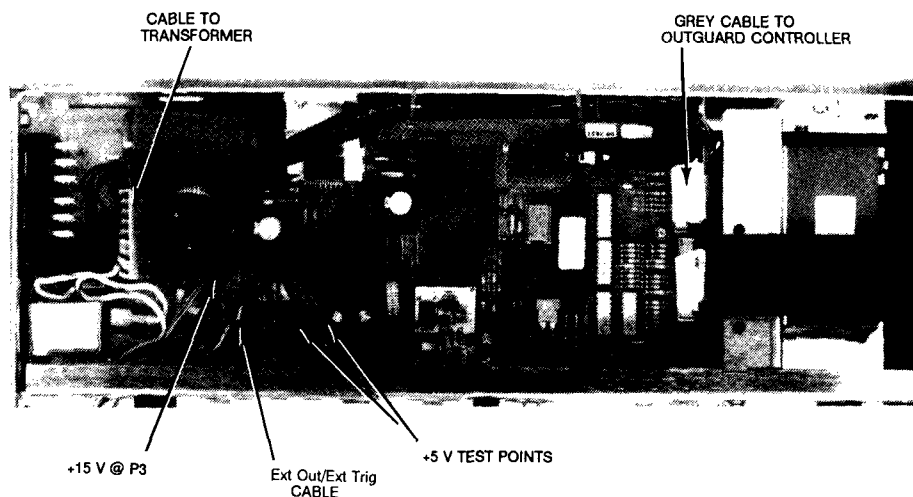

Figure 4-2. Outguard Power Supply
2. Refer to Figure 4-2 to locate the Ext Out/Ext Trig cable plugged in on the Outguard Power Supply (A6) assembly. Unplug the cable from socket P301.
2. Refer to Figure 4-2. Unplug the 2 pin cable from socket P3. The cable is connected to the fan.
3. Turn the instrument on. Use a digital multimeter to measure for approximately +15 V at socket P3, as shown in Figure 4-2.
- b. Refer to Figure 4-2 to locate the 8 pin cable that connects the Outguard Power Supply (A6) assembly to the power transformer. Unplug the cable at the power supply assembly.
2. Refer to Figure 4-2. With the test digital multimeter, check for +5 V $\pm$.05 V at the test points shown in the figure.
6. Refer to Figure 4-2. Unplug the grey 20 pin cable connected to the Outguard Controller (A5) assembly.